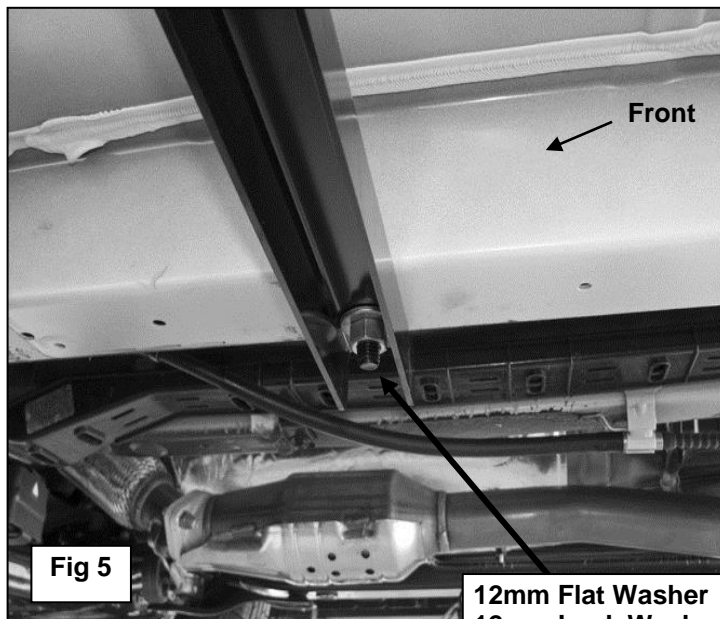

Fig 5
3. Next, attach the front Bracket assembly to the Bolt Plate with (1) 12mm Flat Washer (1) 12mm Lock Washer and (1) 12mm Hex Nut, (**Figure 5**). Leave hardware loose at this time.